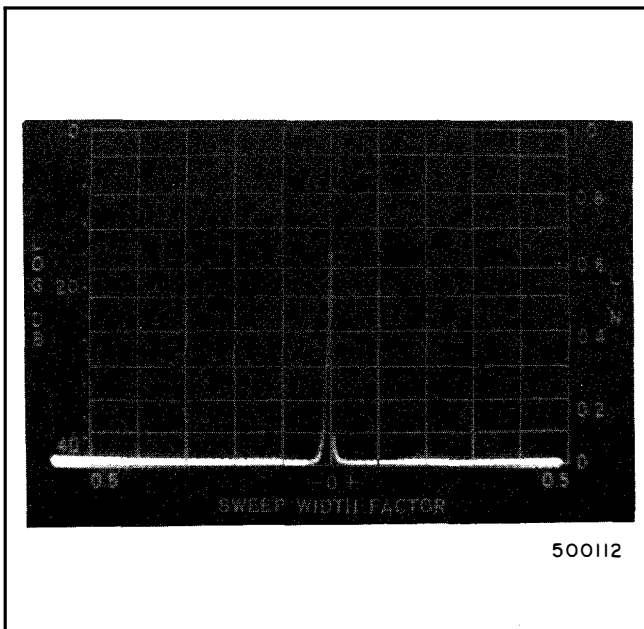

Figure 3-3. Zero-Frequency Pip
b. Adjust the A BAL control and/or the S BAL control so that the zero-frequency pip (figure 3-3) is visible. With the Model SPA-3/25a, be sure that the ZERO ADJ - BAND selector is set to LO. This is done by turning selector to extreme counterclockwise position until the switch is actuated. Adjust the selector (concentric with the CENTER FREQUENCY control) so that the zero-frequency pip is at the center of the screen. Then adjust the A BAL control and the S BAL control to minimize the zero-frequency pip.